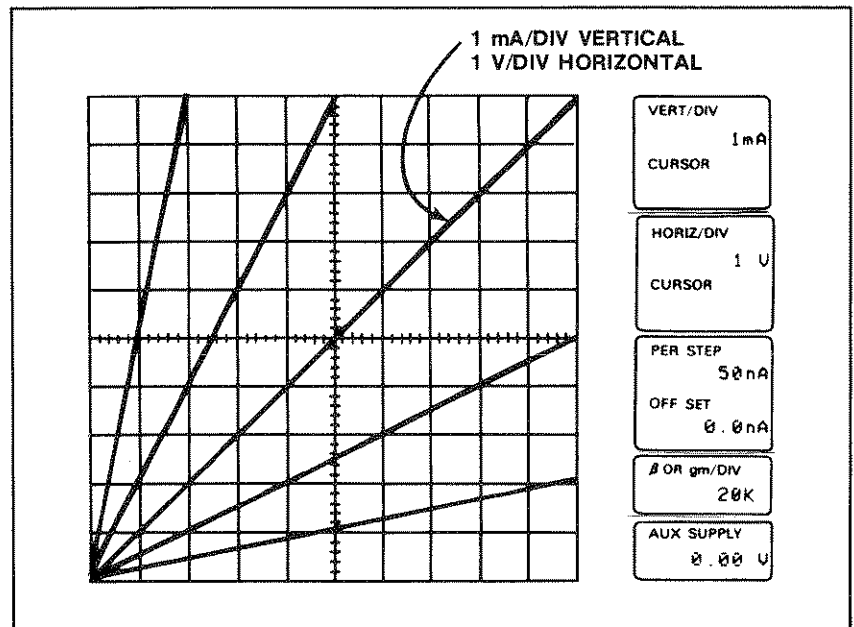

Figure 3-4. Display of I vs. E for 1 k resistor.
18. Rotate the VERTICAL control clockwise and note that as the vertical deflection factor decreases, the line slope increases (see Figure 3-4). Turn the VERTICAL control counterclockwise from the 1 mA position and note the decreasing slope. Also note that the VERT/DIV readout changes in accordance with the position of the VERTICAL control. Reset the VERTICAL control to 1 mA.
19. Rotate the HORIZONTAL control clockwise and note that as the horizontal deflection factor increases, the line slope decreases (see Figure 3-4). Turn the HORIZONTAL control counterclockwise from the 1 V position and note the change in slope. Also note that the HORIZ/DIV readout changes as the HORIZONTAL control is rotated. Reset the HORIZONTAL control to 1 V.